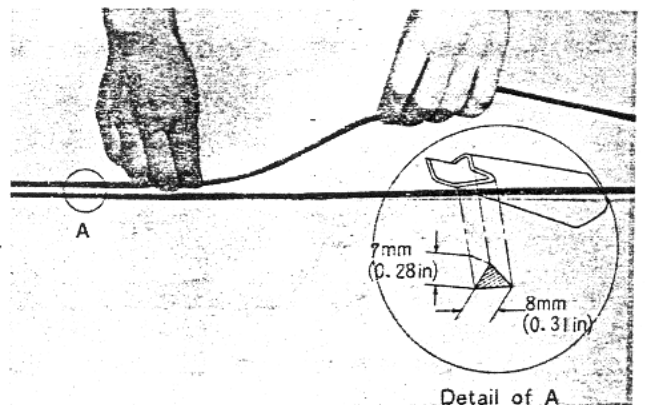

Fig. 14-28 Bonding dam
2. Clean the glass thoroughly and bond the dam with bonding agent parallel to the edge of the glass at a position 7 mm (0.28 in) away from it. Bond the dam in the direction shown in Fig. 14-28.